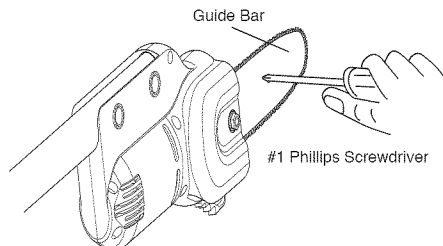
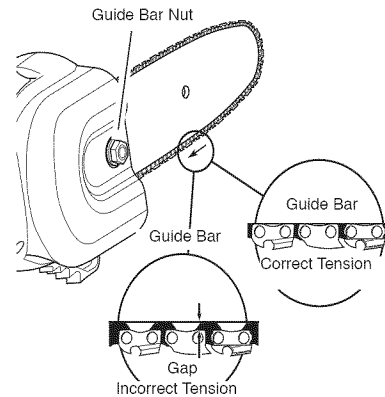

Figure 5 - Chain Tension Adjustment
Figure 6 - Saw Chain Adjustment
2. Insert a #1 Phillips head screwdriver or smaller into the hole in the middle of the guide bar (see Figure 5). Using the screwdriver, push the guide bar away from Pole Saw motor housing to tension the chain. **Note:** There should be no gap between side links of chain and bottom of guide bar (see Figure 6).